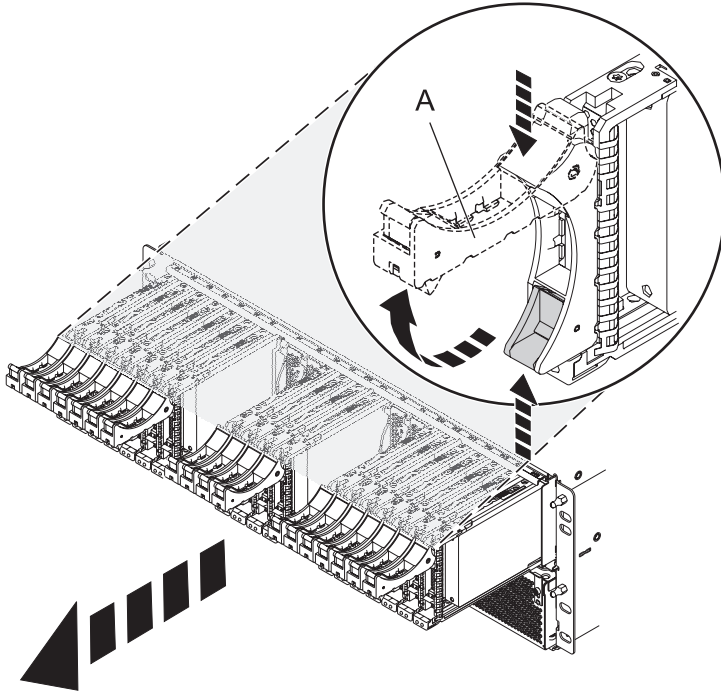

Figure 80. Removing the drives from the backplane
4. Remove the drives and fillers as shown in Figure 80 on page 116.